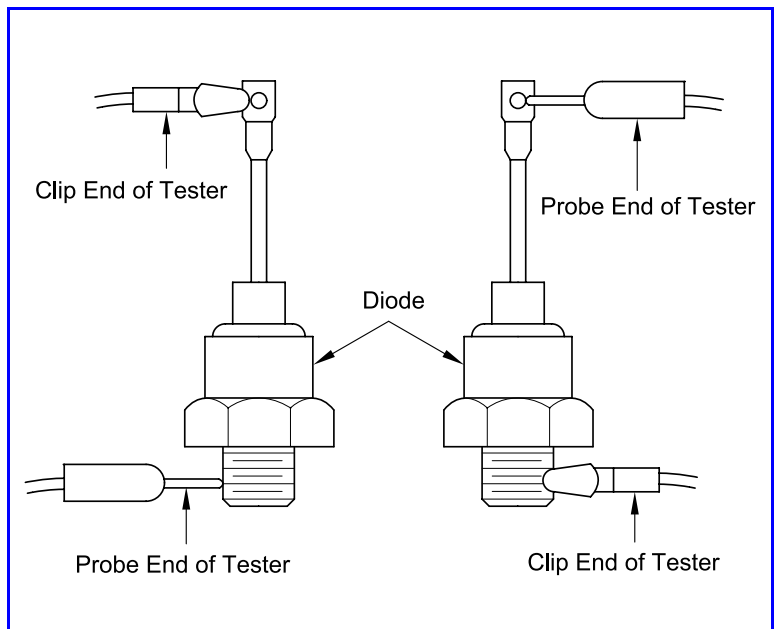

Figure 8 Continuity Tester Attached to Diode
2. Apply clip end of the continuity tester to the diode pigtail and the probe end to the diode stud. See **Figure 8**.
3. Apply probe end of the continuity tester to the diode pigtail and the clip end to the diode stud. See **Figure 8**.